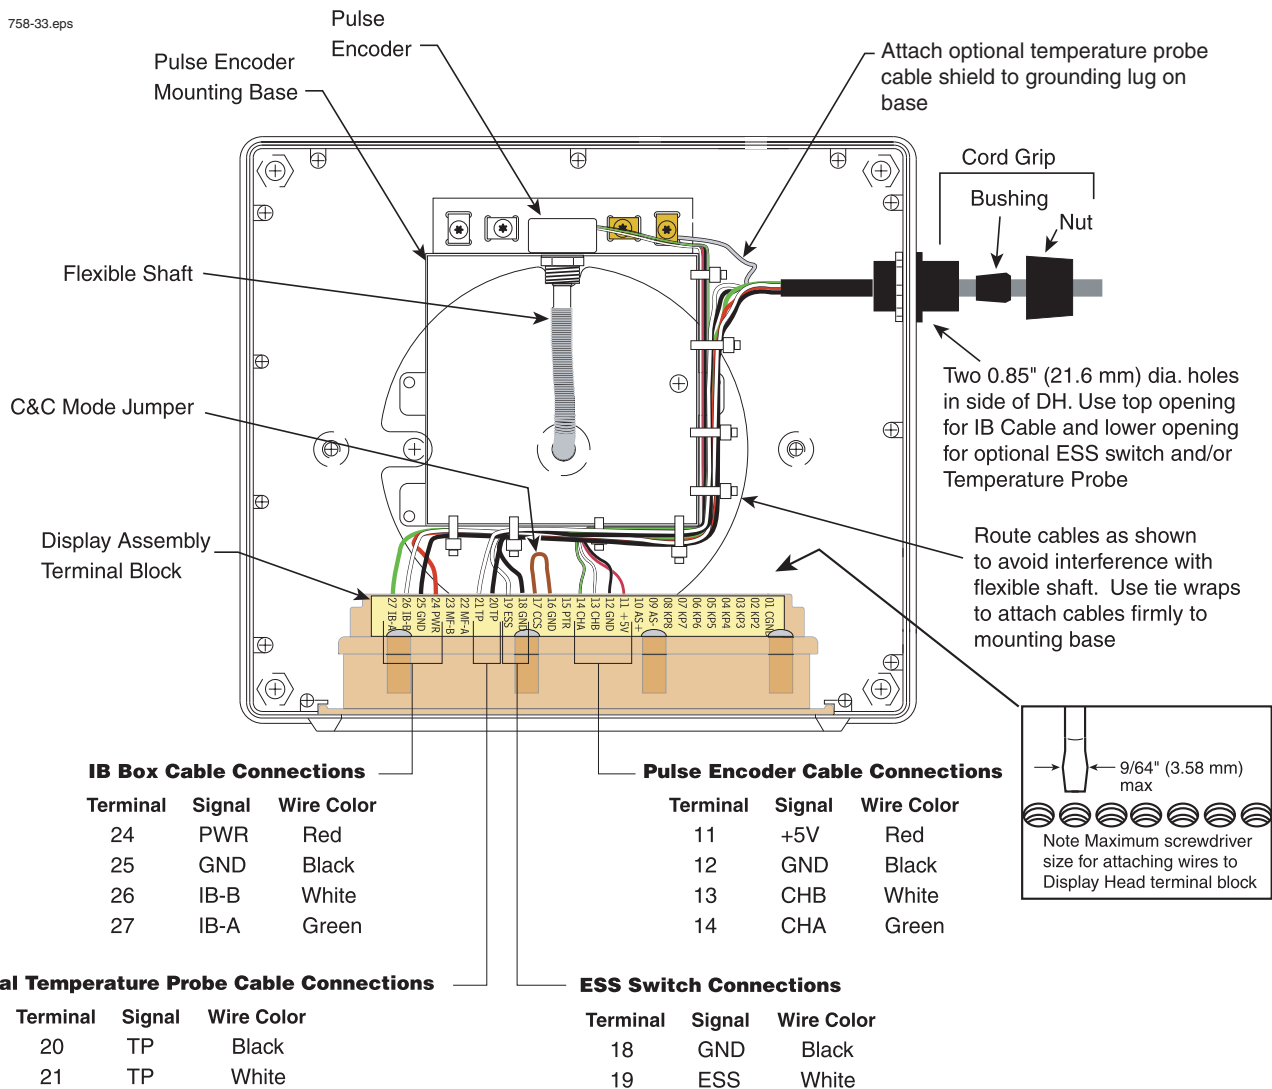

Figure 40. Display Head Cable Wiring And Switch Locations
2. Slide the cord grip nut and then the bushing over the IB cable leads. Pull enough cable through so that the leads reach the terminal block on the display assembly and can be tie wrapped to the pulse encoder mounting base as shown in Figure 40. Slide the tapered end of the bushing into the cord grip, then screw on the cord grip nut and tighten securely.
3. Attach the four-wire IB cable to the terminal block as shown in Figure 40.
4. If you have the optional temperature probe remove the lower cord grip nut and slide it, then the tapered bushing, over the temperature probe cable. Pull enough cable through so that the leads reach the terminal block on the display assembly and can be tie wrapped to the pulse encoder mounting base as shown in Figure 40. Slide the bushing into the cord grip and then screw the cord grip nut onto the cord grip and tighten securely.
5. Attach each wire (no polarity) of the 2-connector temperature probe cable as shown in Figure 40.
1. A C&C Mode wire jumper (see Figure 40) - standard configuration. To enter C&C mode, you remove one end of the jumper from its terminal, and you reconnect it when finished.